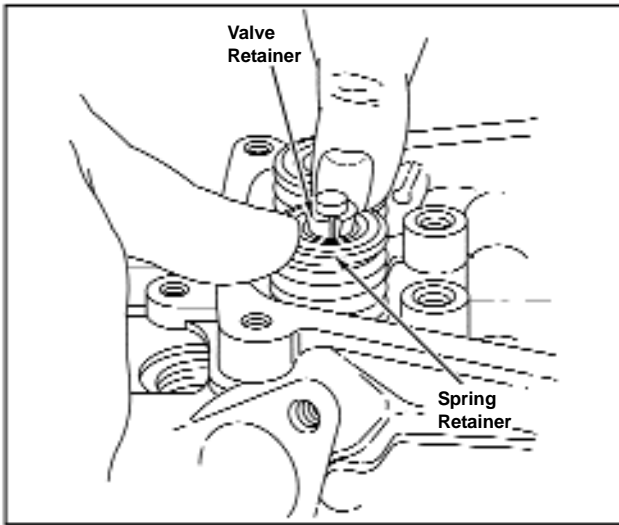

**Figure 89 - Disassembling Rocker Arm Shaft**
2. Disassemble rocker assembly by using external snap ring pliers to remove either snap ring, Figure 89.